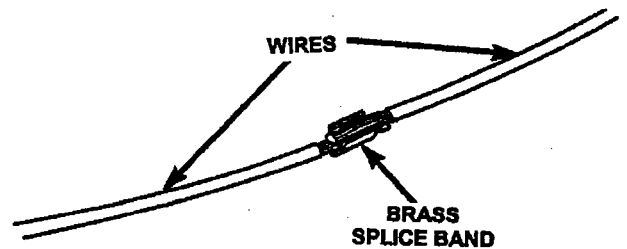

Figure 9
- e. Place the strands of wire overlapping each other inside of the brass splice band (Figure 9).